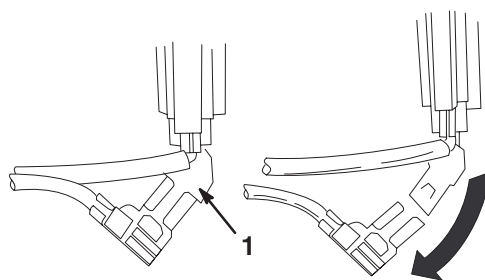

Figure 24
6. Disconnect the green ground wire clip under the throttle (Fig. 24).